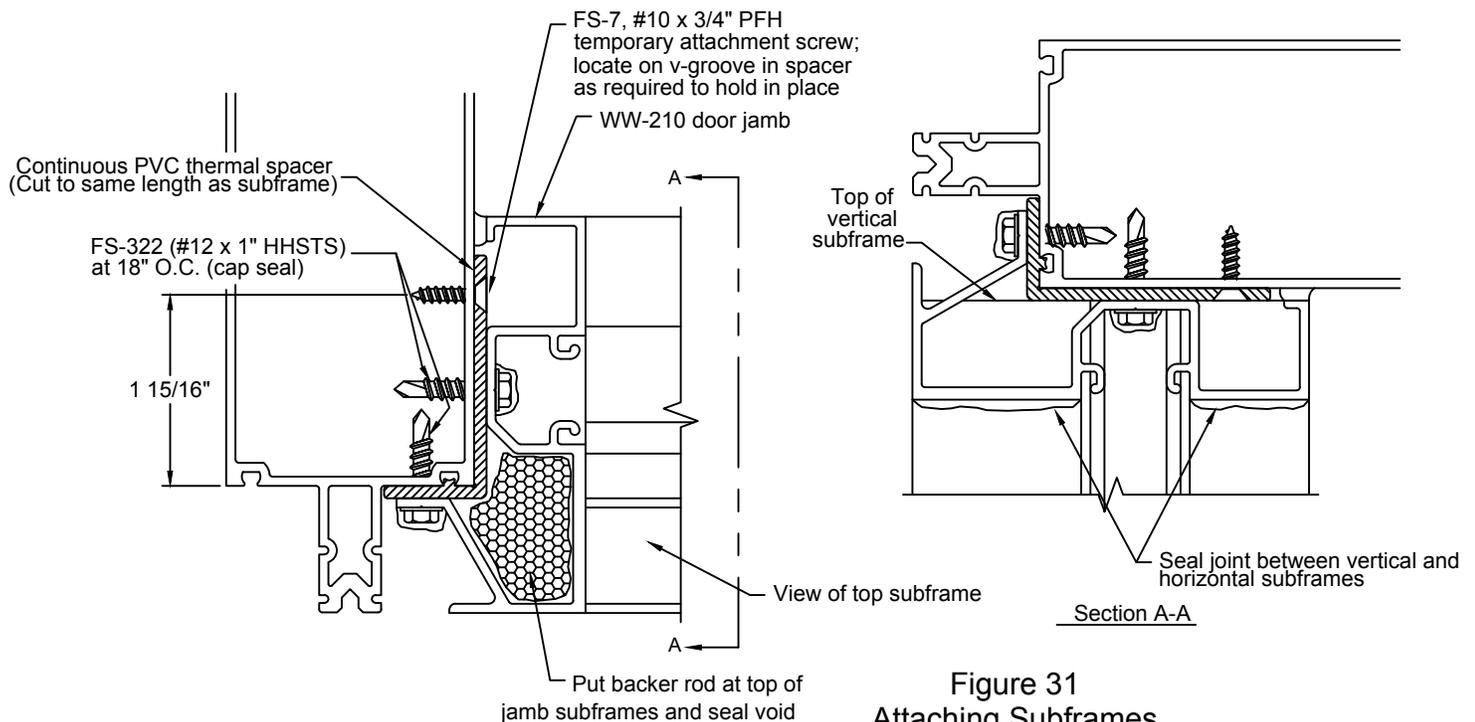

Figure 31
C.2.1 Attach TH-44 threshold clip to bottom of each jamb subframe with two (2) FS-256 #8 x 1 1/2" Phillips Round Head screws.
C.2.2 Install thermal spacer into curtain wall vertical glazing reglet. Hold in place with silicone if necessary. SEE FIGURE 31.